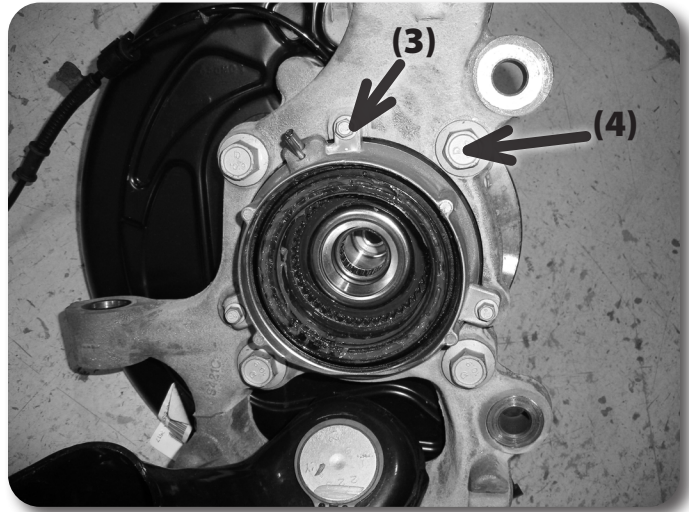

Figure 21
42. Remove the four hub bolts from the knuckle and remove the hub from the knuckle **Figure 21**. Inspect mounting surface of the hub assembly and clean any dirt or corrosion off as necessary.